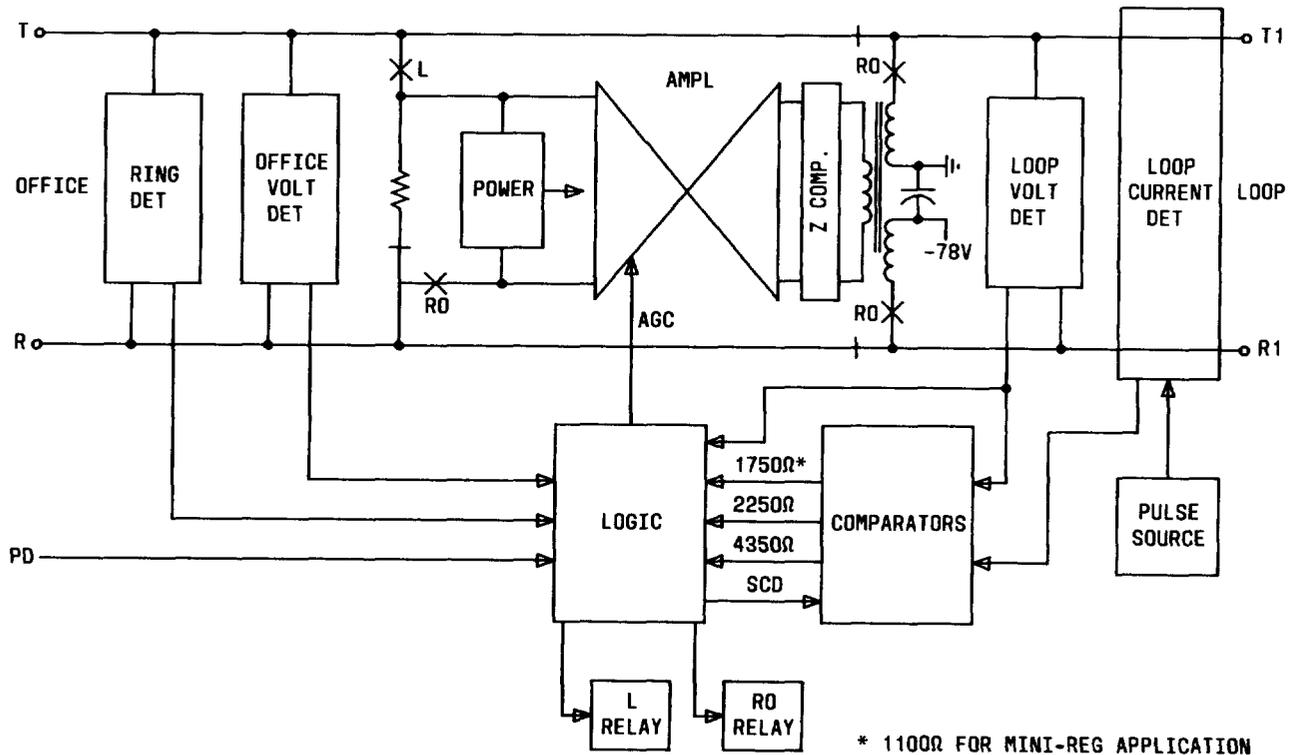

Fig. 4—7A REG Block Diagram
**4.01** Figure 4 is a block diagram of the 7A REG. The VF amplifier is an electronic hybrid